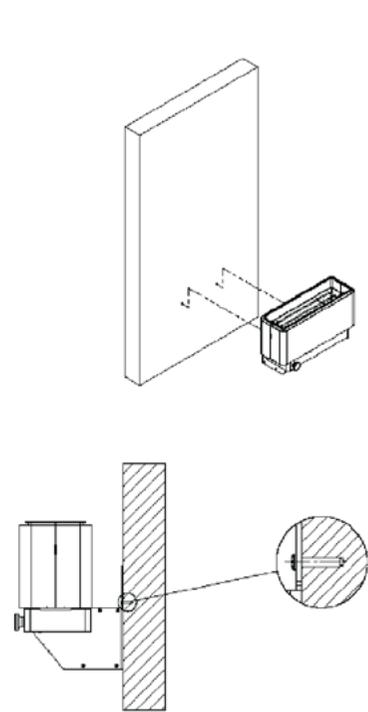

Figure 3.4: Hanging the sauna climate device on the wall
3.2.3. Then, lift the device on the wall so that the bolts in the wall slide into the openings on the back of the device (figure 3.4).